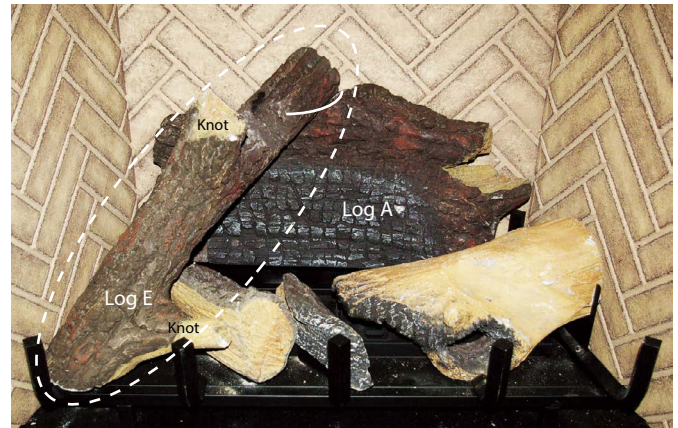

Figure 18k. Installation of Log 'E'.
Step 9. Position Front Right Log 'F', with the Knots pointing in the directions shown, **Figure, 18l.** Place the **Lighter, narrow end** on top of Log 'E' as shown, (**arc'd line**). Align for length and location, **Figure 18k.**